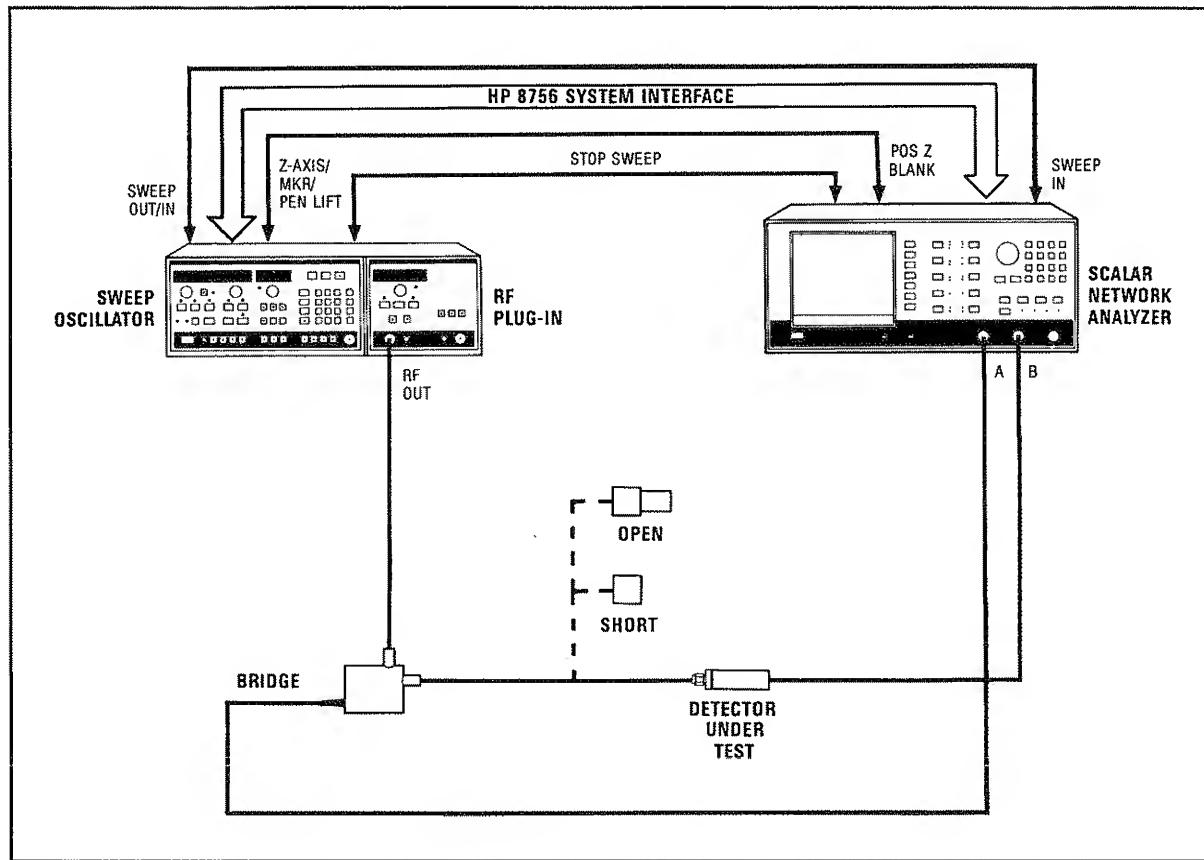

Figure 4. Return Loss Test Setup
1. Set up the equipment as shown in Figure 4, with nothing connected to the bridge **TEST PORT**. Press **[PRESET]** on the HP 8756A; both the HP 8756A and the HP 8350B will reset. On the HP 8350B **[MOD]** will be activated, sweep time will be set to 200 ms.